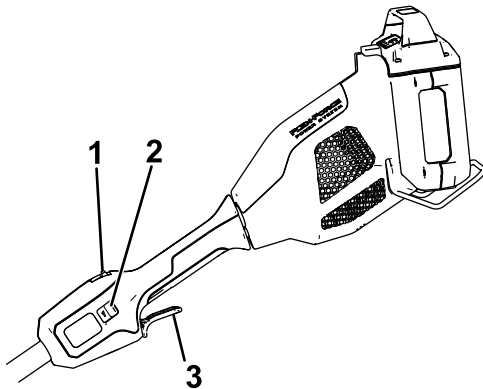

Figure 8
4. To start the attachment, press the lockout button, then squeeze the run trigger (Figure 8).
To shut off the hedge trimmer, release the run trigger (Figure 8). Allow at least 5 seconds for the cutting blade to stop moving.